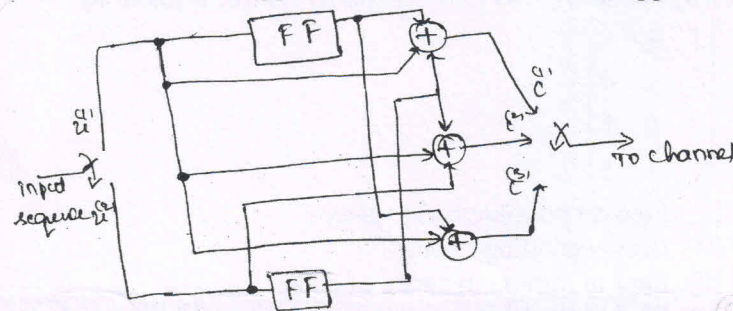

Fig Q6(a)
- 6 a. For a (3, 2, 1) encoder, shown in Fig Q6(a), find the code word for input sequence $u^{(1)} = 101$ and $u^{(2)} = 110$ using i) time domain approach ii) Transfer domain approach. (14 Marks)